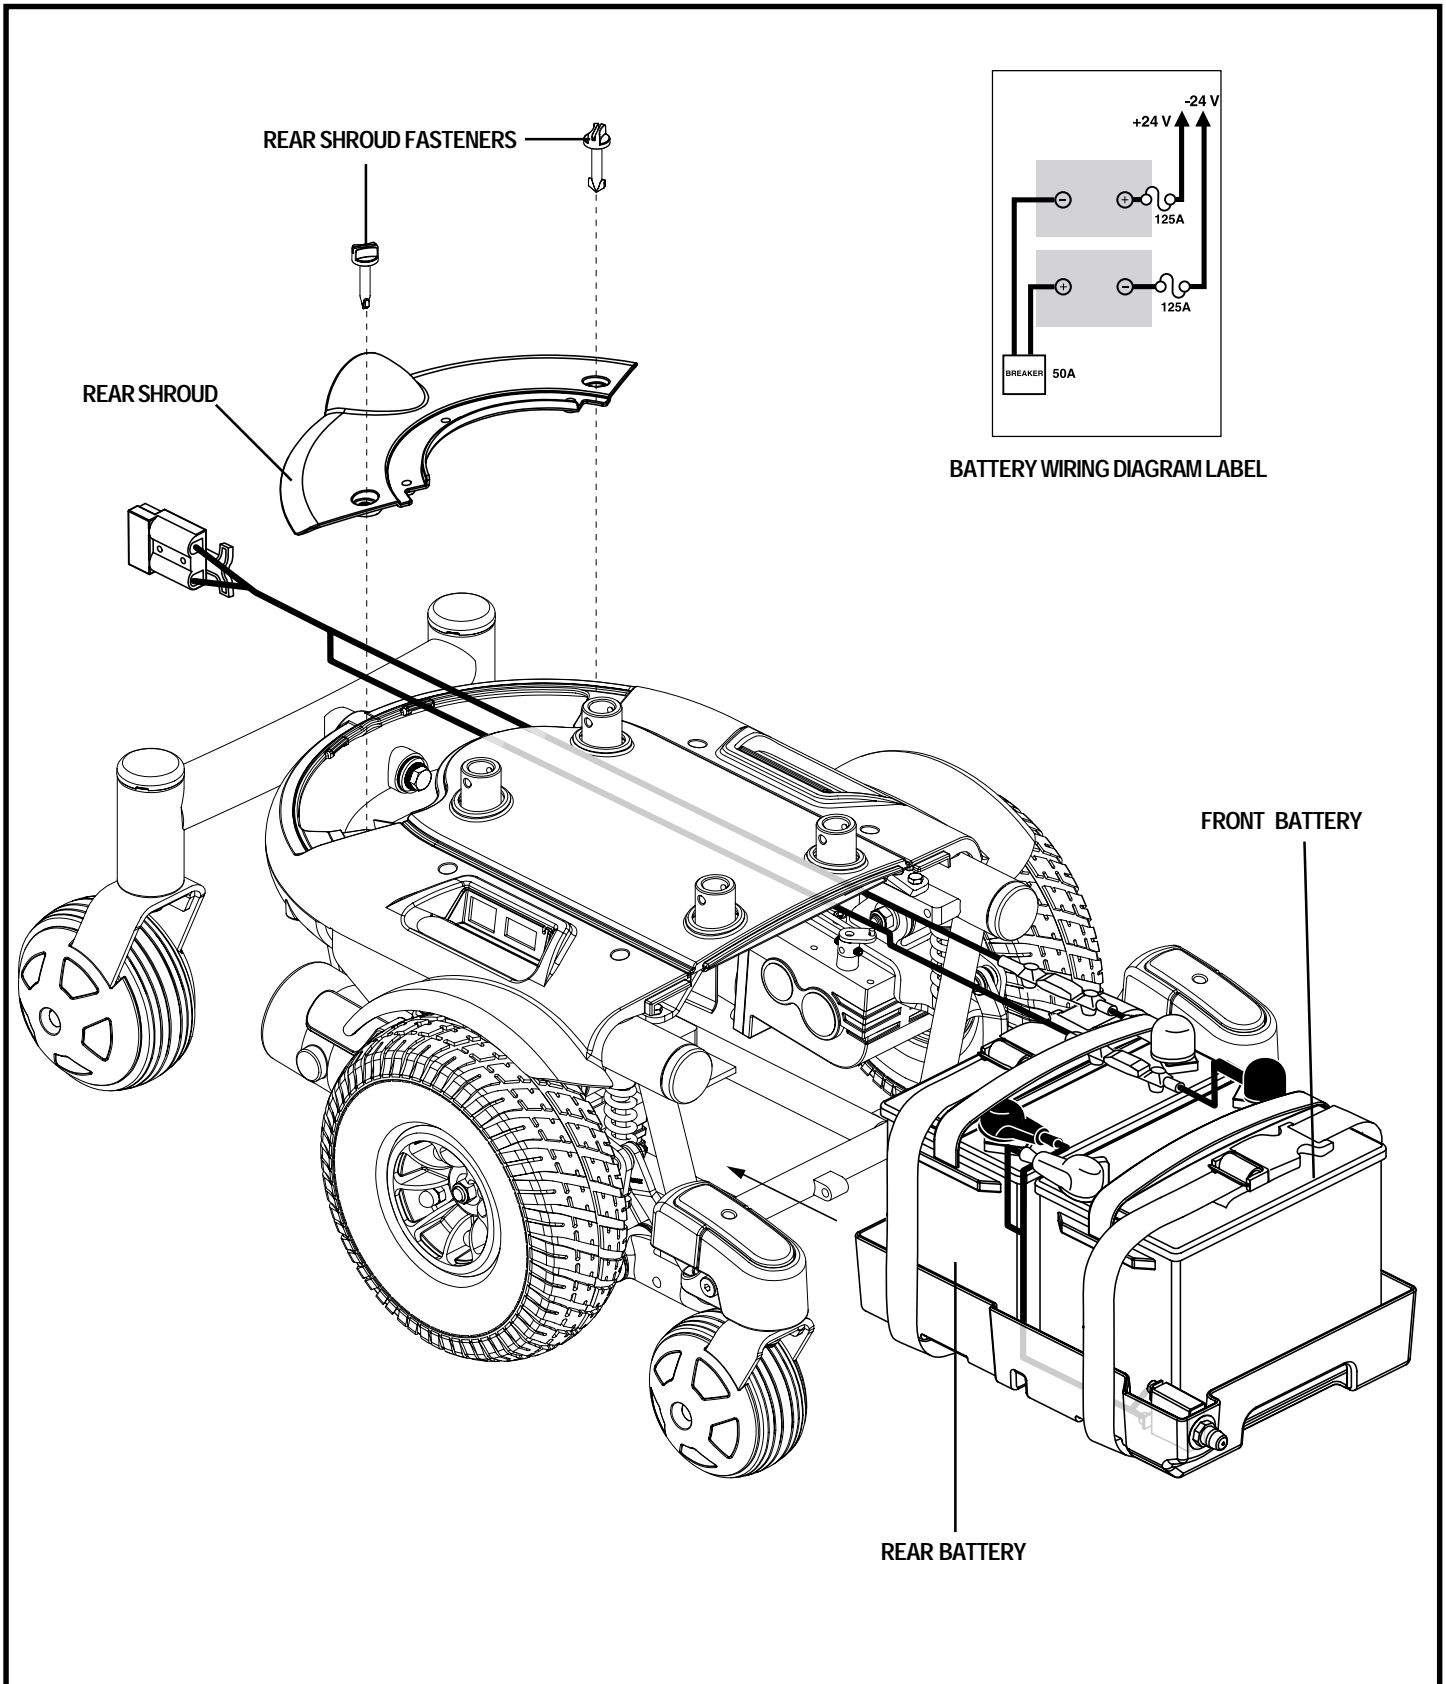

Figure 26. Battery Installation
3. Loosen the rear shroud fasteners. See figure 26.